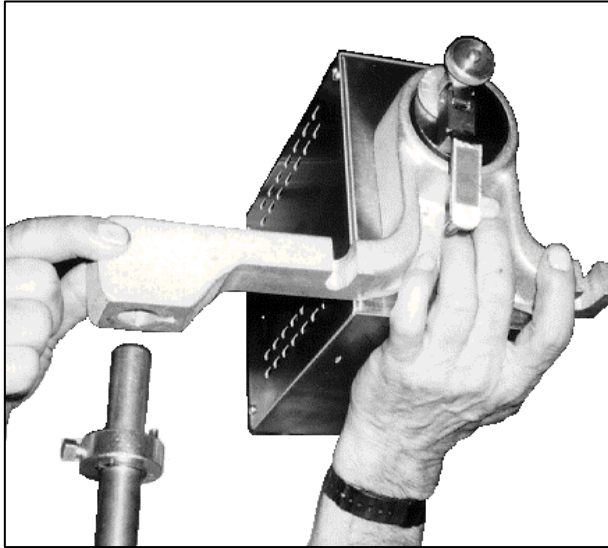

Figure 1-5. Mounting the Cutter Head Assembly.
1. Set the cutter head assembly onto the swing column. (See Figure 1-5.)